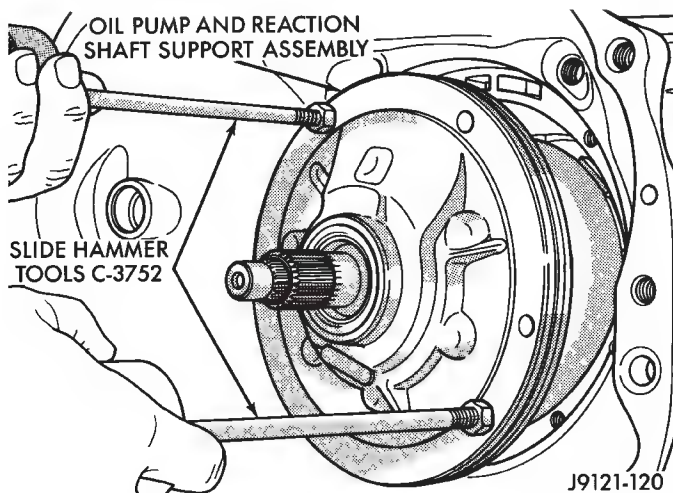

Fig. 10 Removing Oil Pump/Reaction Shaft Support
(14) Loosen front band adjusting screw locknut 4-5 turns. Then tighten band adjusting screw until band is tight around front clutch retainer. This prevents front/rear clutches from coming out with pump and possibly damaging clutch or pump components.
- (15) Remove oil pump bolts.
(16) Thread bolts in Slide Hammer Tools C-3752 into threaded holes in pump body flange (Fig. 10).
(17) Bump slide hammer weights outward to remove pump and reaction shaft support assembly from case (Fig. 10).